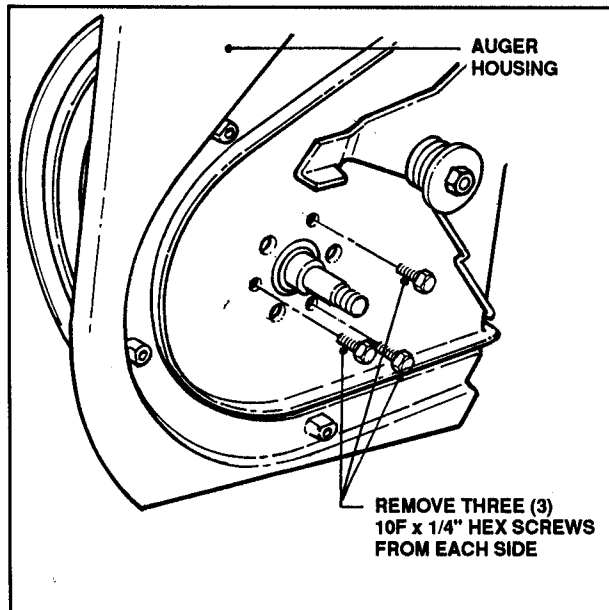

FIGURE 7.10
- (5) Remove three (3) 10F x 1/4" hex washer, self-tapping screws from each side of the Auger Housing. See Figure 7.10.